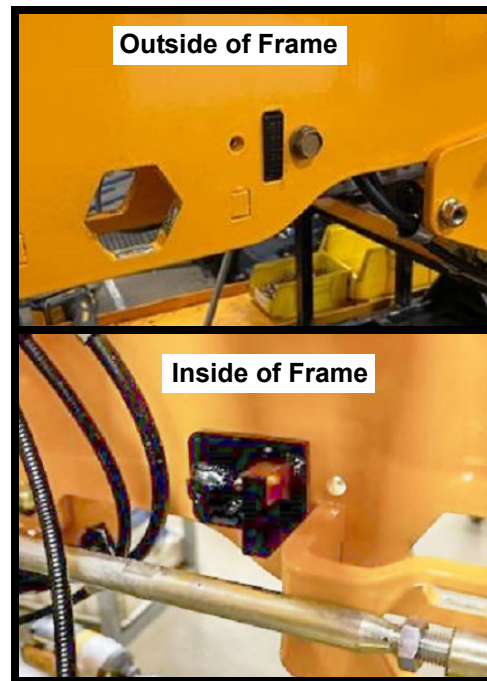

FIGURE 5
12. Securely tighten the 5/16-18 x 0.750" tap tite screw. See Figure 5.